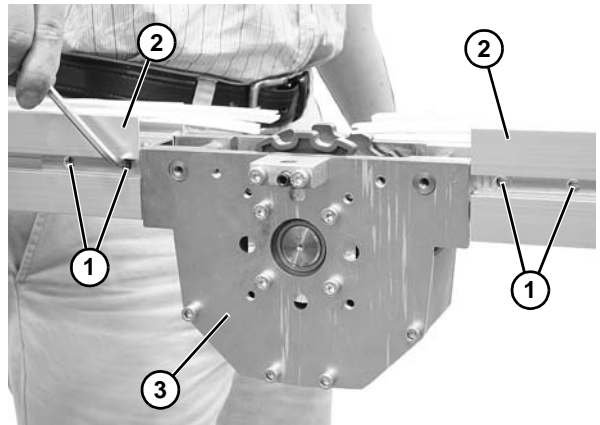

Figure 145
8. Loosen set screws (**Figure 145, item 1**) on both sides of conveyor.
9. Separate conveyor halves (**Figure 145, item 2**) and remove drive assembly (**Figure 145, item 3**).